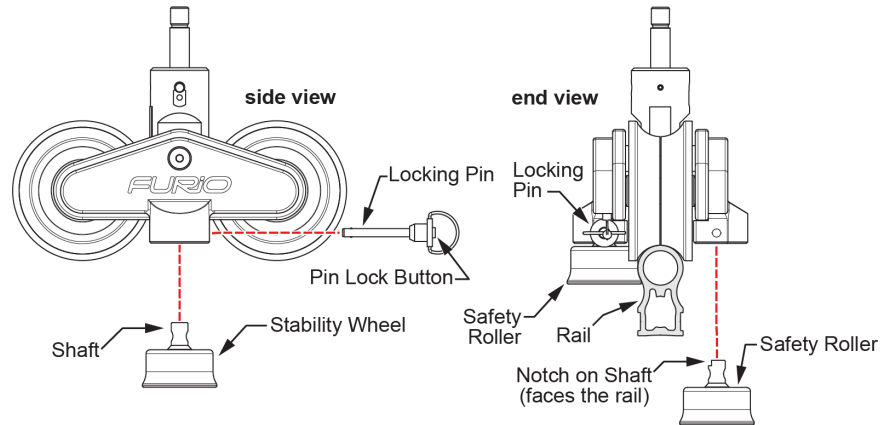

Figure 28 - Attaching Stability Wheels
3. Pull and hold the pin lock button, then slide the locking pin into its hole, as shown in **Figure 28**.